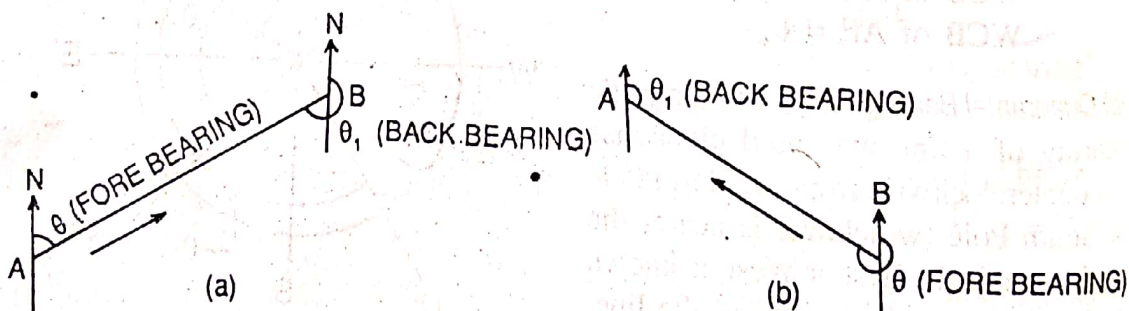

Fig. 3.4
**7. Fore and back bearing** The bearing of a line measured in the direction of the progress of survey is called the 'fore bearing' (FB) of the line.
The bearing of a line measured in the direction opposite to the survey is called the 'back bearing' (BB) of the line (Fig. 3.4).
For example, in Fig. 3.4(a),
In Fig. 3.4(b),